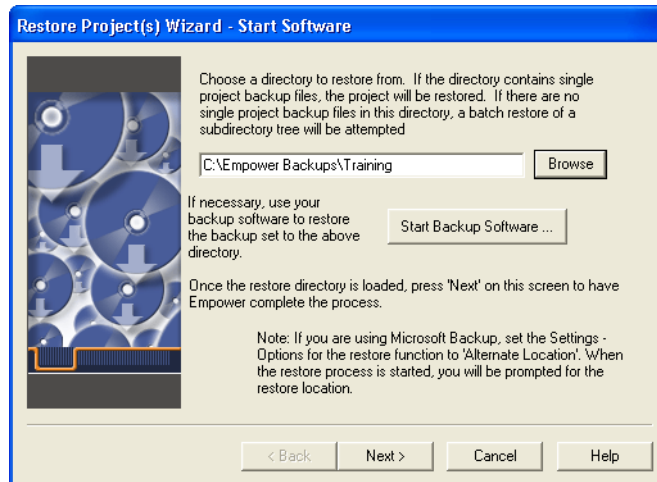

Figure 8-5 Restore Project Wizard–Start Software
1. Select **Manage > Restore Project**. The Restore Project Wizard–Start Software page appears (Figure 8-5).